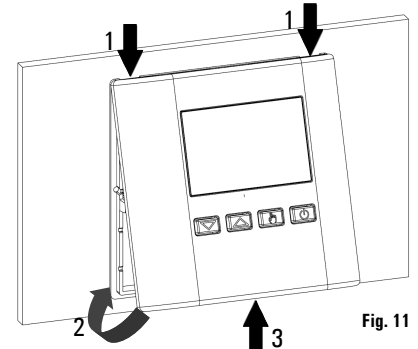

Fig. 11
- Close the upper side of the cover while, at the same time, slightly pressing with a finger the plastic tooth on the bottom side of the base making it lean towards the inner side of the thermostat (see the arrow in Fig. 11).